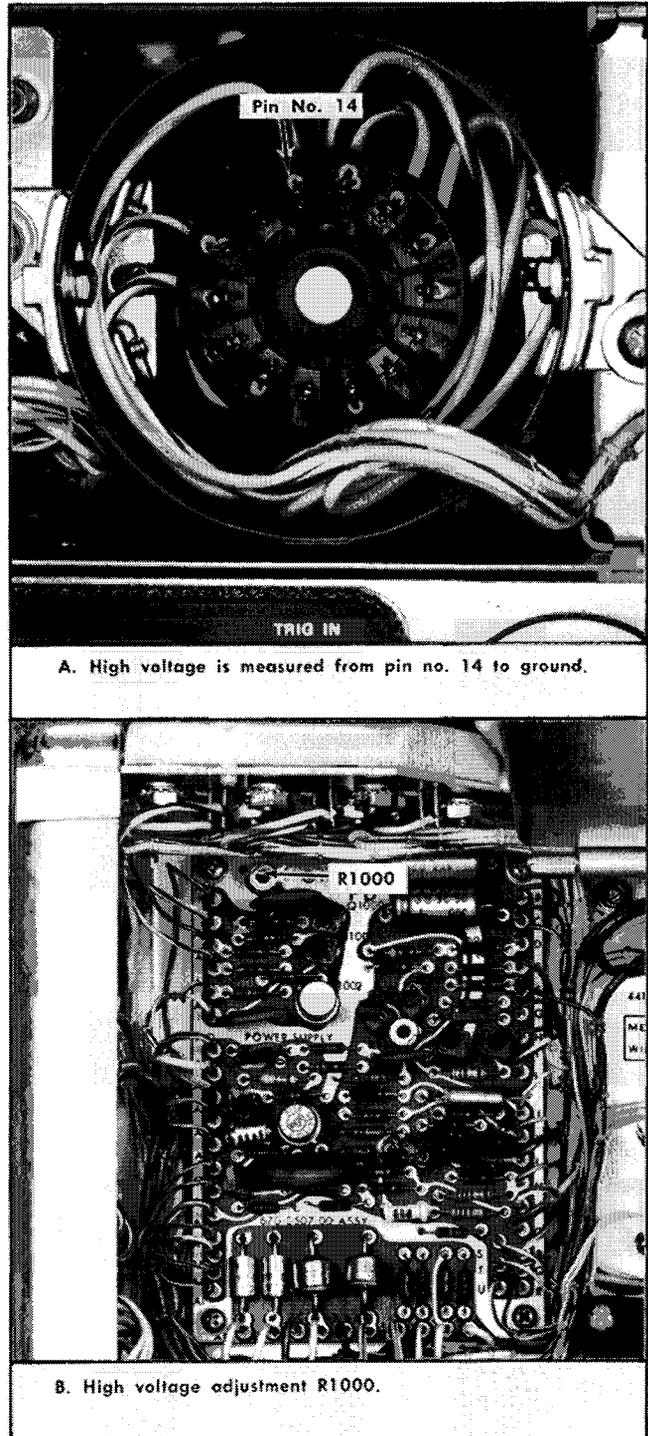

Fig. 6-6. Adjusting the  $-3670$  V supply.
c. Connect the voltmeter between pin 14 of the CRT base socket and chassis ground. (See Fig. 6-6). Set the voltmeter range to measure approximately 4000 volts.
d. Turn the POWER switch to ON and adjust the High Voltage Adj R1000 (Fig. 6-6) for a meter reading of —3670 volts.